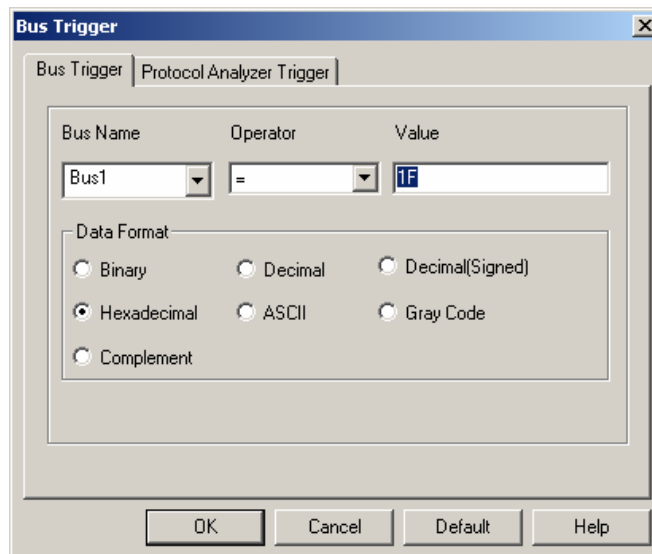

Fig 4-30 – Bus Trigger Setup
1. Highlight the Bus which will be triggered then click  icon or select **Bus Trigger Setup** from the Trigger of the Menu Bar, the dialog box as shown in Fig 4-30 will appear.
2. Set Binary, Hexadecimal, Decimal, Decimal(signed), ASCII, Gray Code or Complement as the Data Format of the Bus to represent the value (see Fig 4-30).